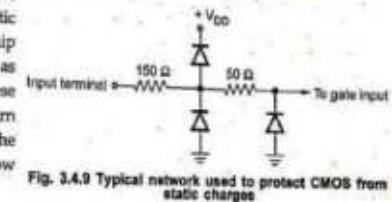

Fig. 3.4.9 Typical network used to protect CMOS from static charges
4. The CMOS devices are protected against this static charge by on-chip diode-resistor network, as shown in the Fig. 3.4.9. These diodes are designed to turn ON and limit the size of the input voltage to well below any damaging value.